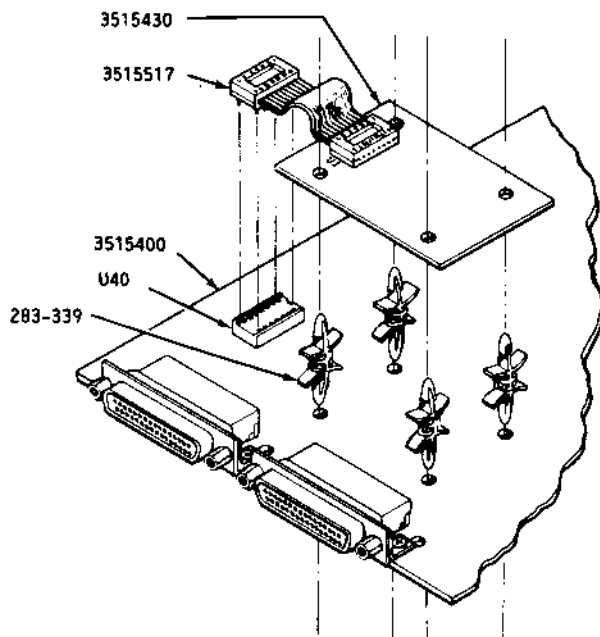

Fig. A-3 Mounting Hole Positions
1. Install four snap-on plastic mounting clips into the four mounting holes on the controller board in the bottom of the display unit, as shown in figure A-3. Make sure that the wings of each clip do not interfere with the components of the controller board.
2. Install the current loop board on the controller board, using the newly-installed clips, with U1 on the current loop board towards the left of the controller board, as shown in figures A-3 and A-4.